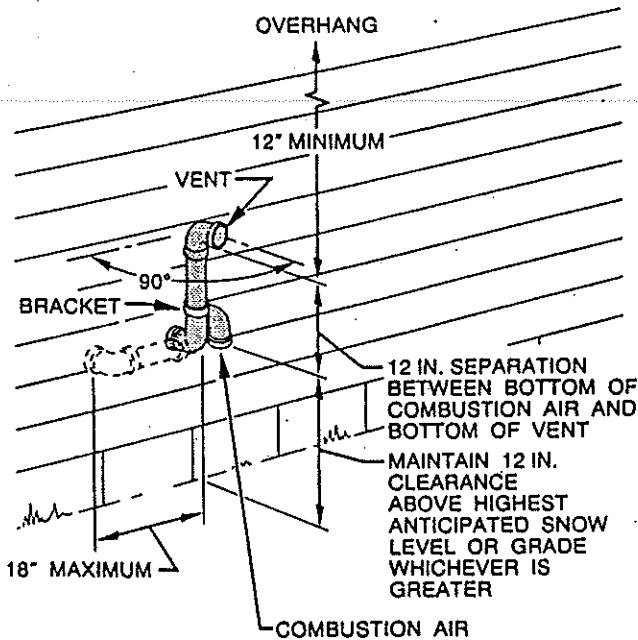

Fig 32. Sidewall Termination (12 in. or more)
Sidewall combustion-air and vent pipe terminations may be extended beyond area shown in Fig. 32 or 33 in outside ambients by insulating pipes as indicated in Table 8.
**SIDEWALL TERMINATIONS-** Install bracket as shown in Fig 32 or 33.
For applications using vent pipe option indicated by dashed lines in Fig 32, rotate vent elbow 90° from position shown in Fig 32.